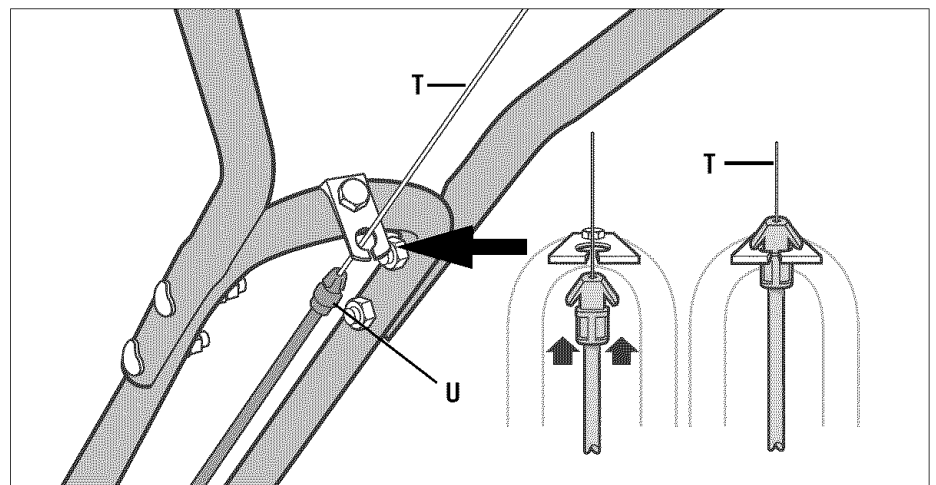

Fig. 2-4: Installing forward clutch cable bracket and cable.
1. Carefully unwrap the forward clutch cable (cable without an attached knob) from its shipping position and slide the thin cable wire (T, Fig. 2-4) into the slot in the cable bracket. Push the cable connector (U, Fig. 2-4) up through the hole in the bracket until the groove in the connector snaps into place.